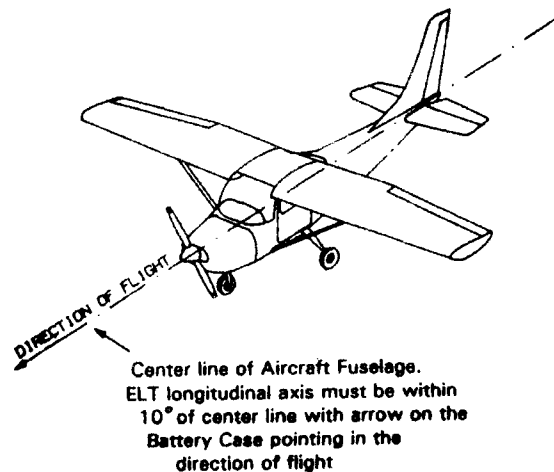
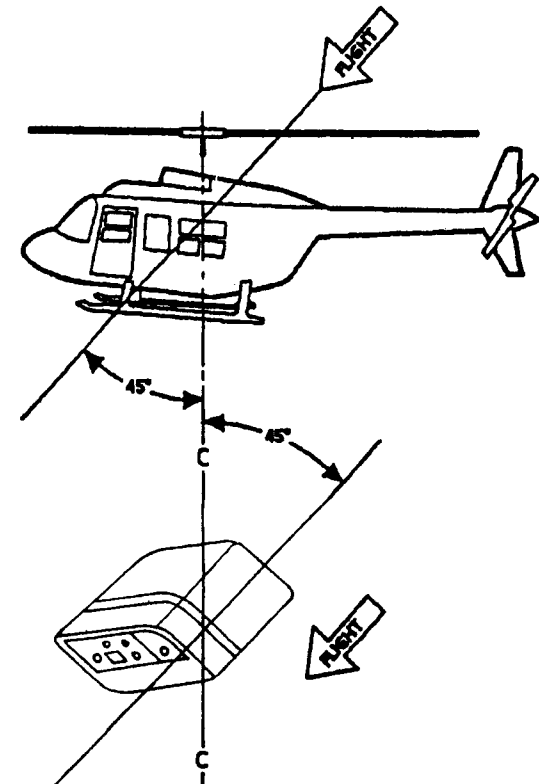

Figure 1. Direction Determination for Fixed Wing Aircraft
Figure 1.1. Direction Determination for Helicopter
The tail section of an airplane is least likely to be damaged during a crash and therefore, it provides a good mounting environment for the ELT unit. Refer to Figure 1 and Figure 1.1 for Direction Determination for Fixed Wing Aircraft and Helicopter, respectively.
The ELT can be installed in a helicopter with very few changes in the aircraft installation steps described herein. All procedures remain the same except that the ELT unit is mounted with the "Direction Of Flight" arrow pointing downward at a 45 degree angle to the horizontal plane rather than parallel to it. See Figure 1.1 below.
1. The Mounting Tray for both ELT Main Unit and Optional Multi-axes Acceleration Switch must be installed on the Horizontal Plane. Therefore, mounting at 45 degree angle downward per Figure 1.1 is not applied. The Optional Multi-axes Acceleration Switch must be installed next to the ELT Main Unit for Crash Safety.